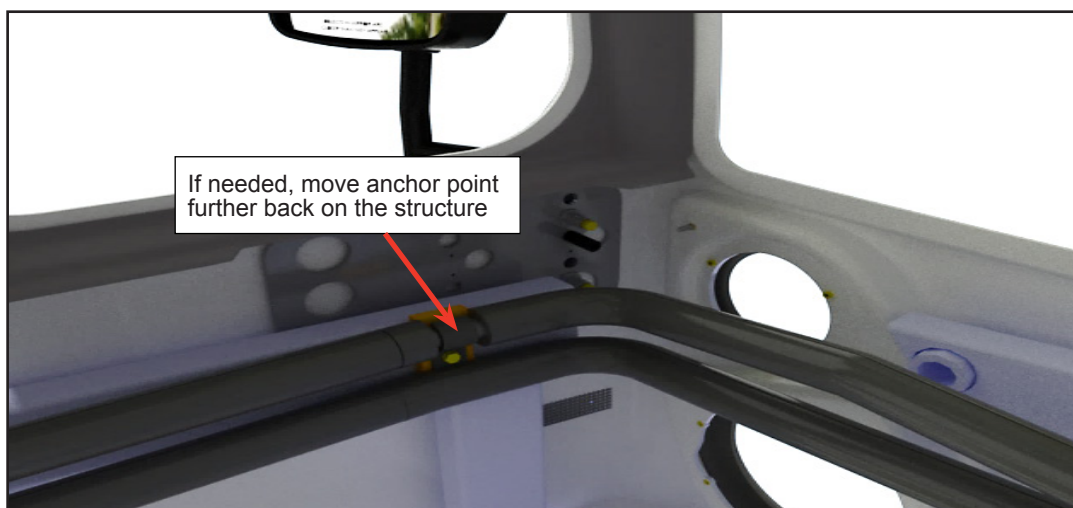

Figure 4 - Coolant Pipe Support Location
- 1.5. Remove coolant pipe support, might require relocation of the rivnut depending on cutout and tolerance (See Figure 4).